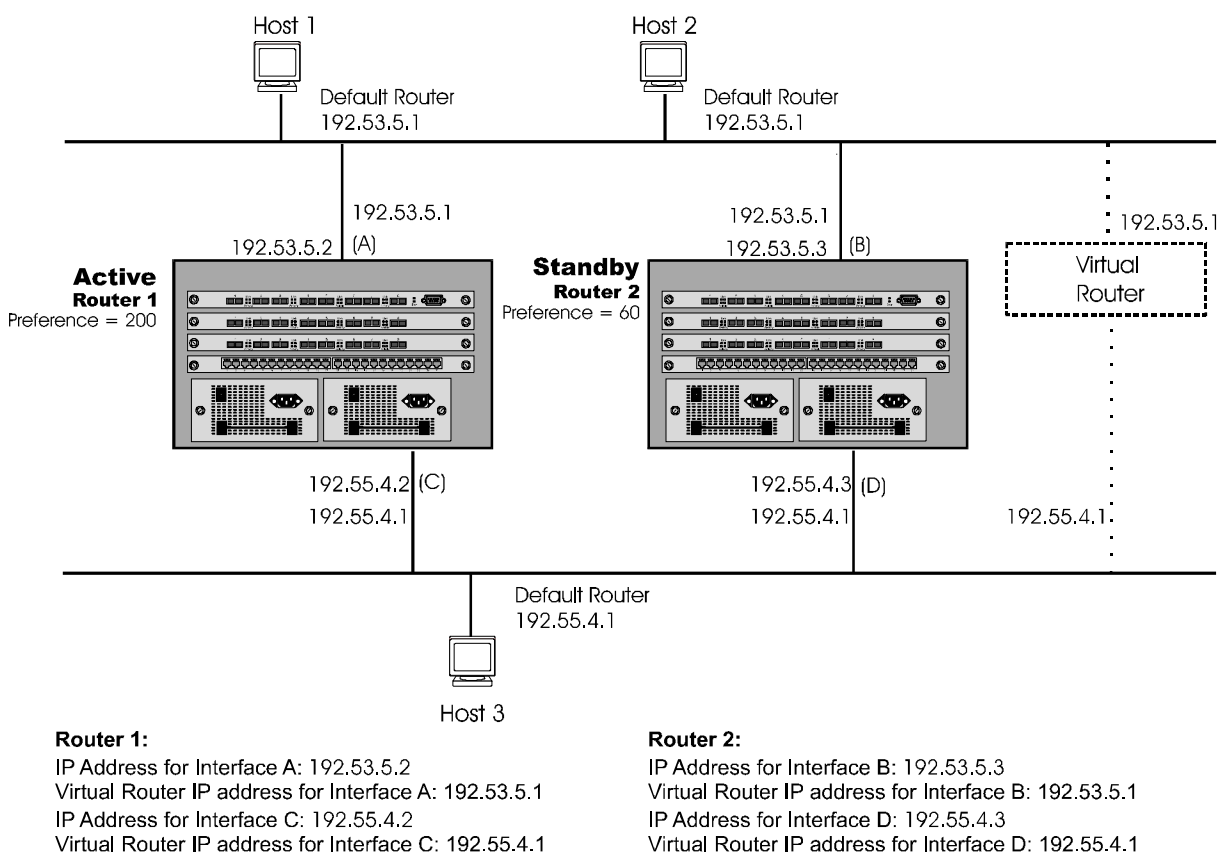

Figure 14.5 SRP operating in an HP 9304M network
In the examples in this section, SRP is used to provide a redundant path between Host 1 and Host 3 to ensure against failure of the primary path. See Figure 14.5.
EXAMPLE: To define and assign the virtual router IP addresses for Router 1, shown in Figure 14.5, you would need to define two separate virtual IP addresses for interfaces A and C and link those addresses to the IP addresses of the physical interfaces for A and C.
EXAMPLE 1: To define and assign the virtual router IP addresses for Router 1, shown in Figure 14.5, you would need to define two separate virtual IP addresses for interfaces A and C as well as linking those address to the IP addresses of the physical interfaces for A and C.
3. Select the IP address to be configured from the IP Address field's pull down menu. For example, if you are initially assigning SRP to interface A (Router 1) as shown in Figure 14.5, you would select IP address 192.53.5.2.
4. Assign a virtual IP address for the virtual router. A virtual router IP address needs to be configured on at least one routing switch in the SRP group. For interface A, you would assign 192.53.5.1, as shown in the network configuration of Figure 14.5.
5. Enter the other router IP address. This is the physical IP address of the partner routing switch's interface in the active-standby router relationship. Notice that in the case of the example (Figure 14.5), interface B on router 2 is designated as the standby router interface so IP address 192.53.5.3 is entered.